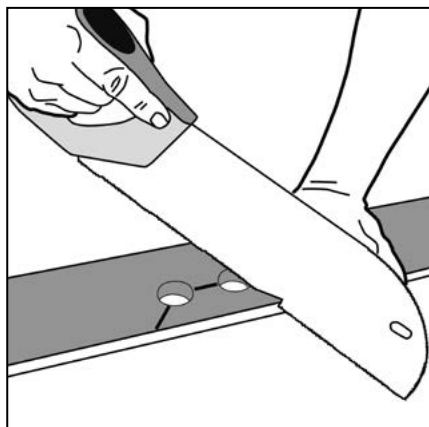

Figure 20 Radiator pipes
- ▶ Cut around as shown with a saw or with a sharp utility knife (Fig 20 overleaf).